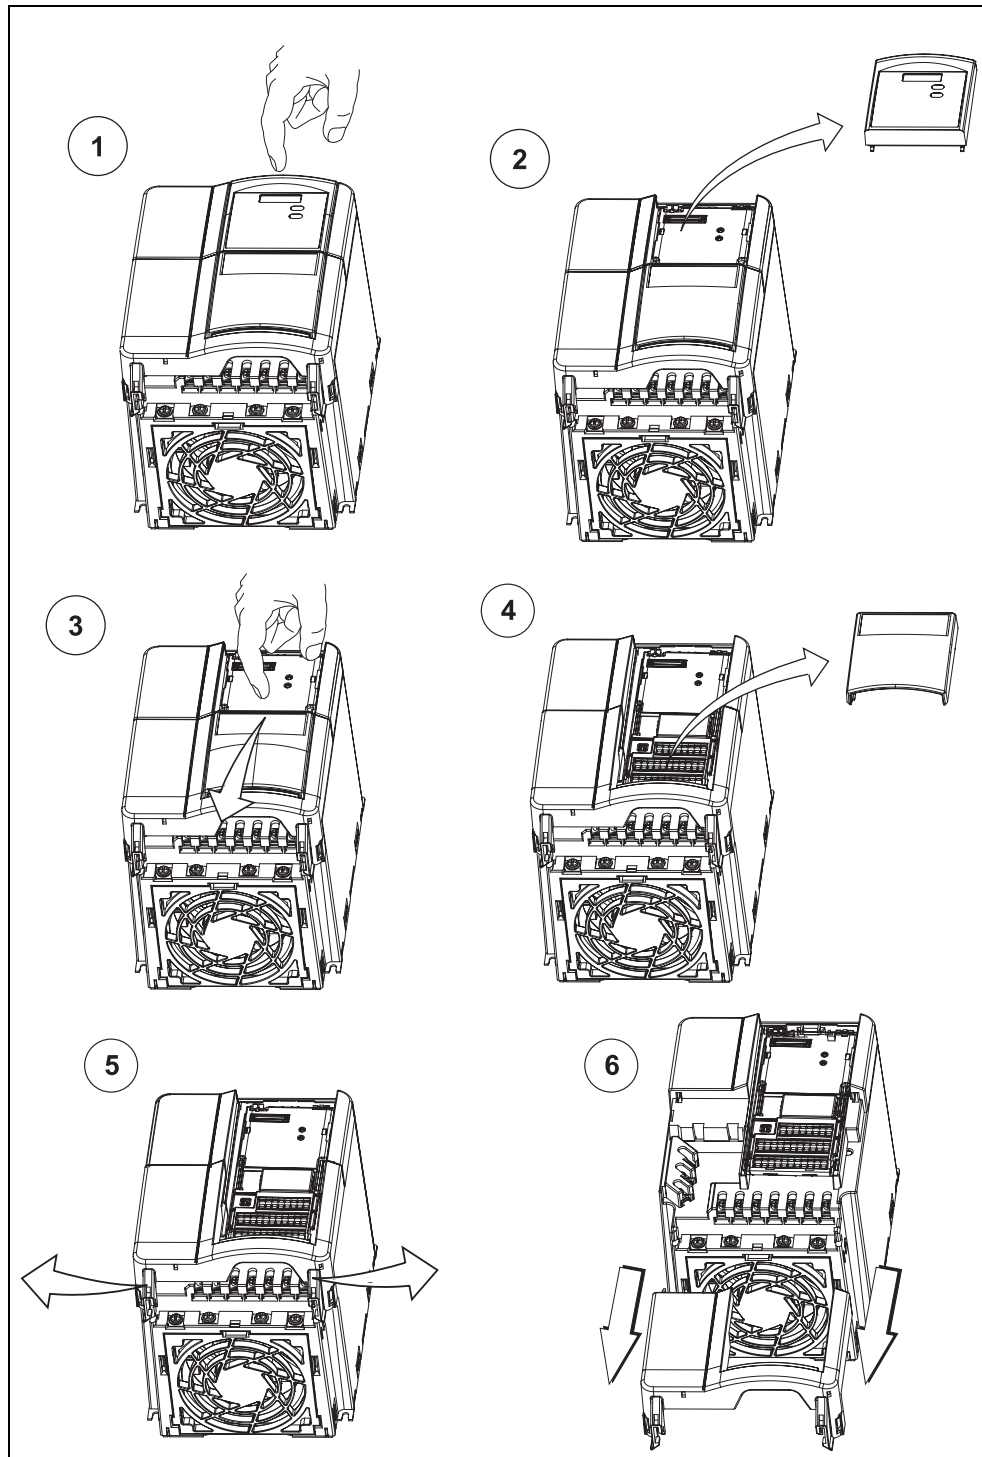

Fig. 2-2 Removing front covers (Frame Sizes B and C)
- Frame Sizes B and C (Fig. 2-2)